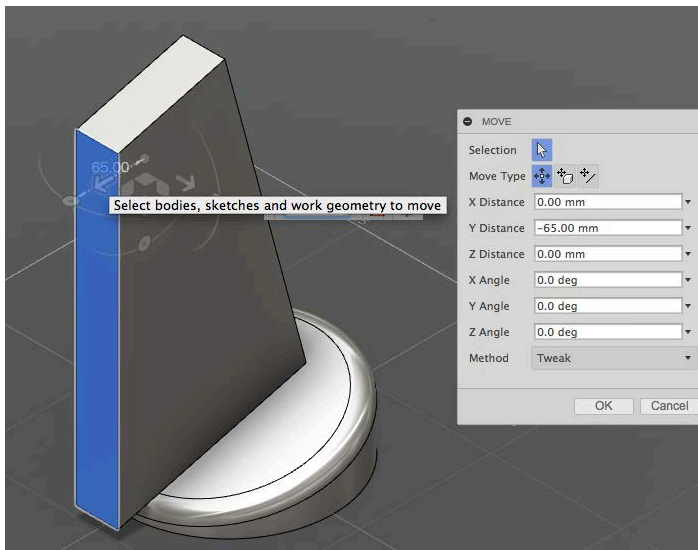

Fig. L05
6. Go to Modify>Move and select the back face of the box (the one that sits lower on the base). Use the arrow and rotation slide to modify it (Fig.L05).